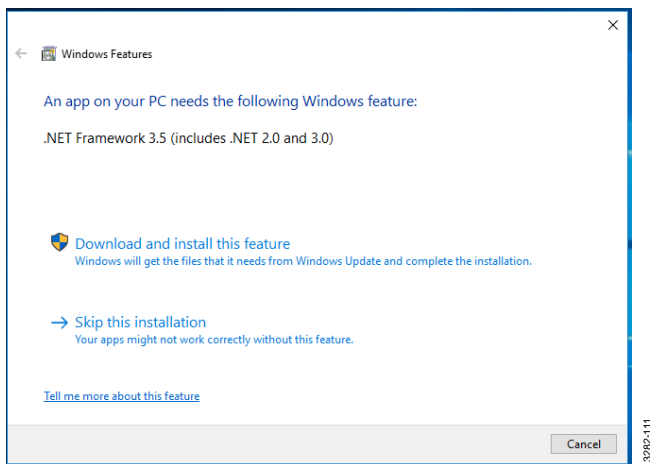

Figure 11. Windows 8/Windows 10 .NET Framework 3.5 Installation
- When the Eval+ Dependencies installer reaches the .NET Framework 3.5 installation step, a window appears, as shown in Figure 11.
- If the window shown in Figure 11 does not appear, the .NET Framework 3.5 may already be installed on the PC. To confirm that the software is installed, open the **Control Panel > Programs > Programs and Features**, and then select **Turn Windows features on or off**. In the pop up window, find .NET Framework 3.5 and confirm that the software is enabled.